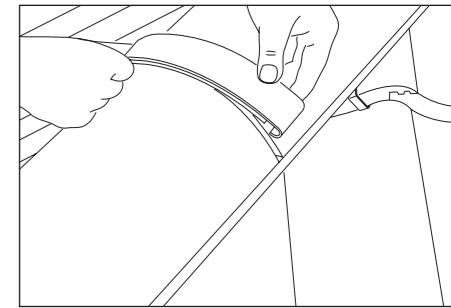

Fig. 10 - Fit ridge unions
- 20 Break off locating lugs on underside of hip/ridge union with pincers or other suitable tool before fitting. Make two small cuts (max. 5mm deep) at either side of block end hip tile to allow side of hip ridge union to clip onto bead of batten section (Fig. 10).